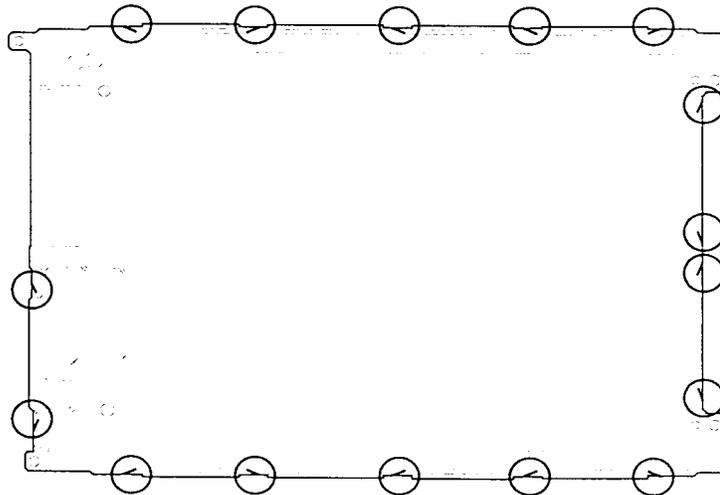

Figure 4-31 Unbending the color LCD module latches
To remove the T2400CS's FL, follow the steps below. Refer to figures 4-31 through 4-33.
3. Lay the **color LCD module** face down and use needle-nose pliers to unbend the **16 latches** holding the front and back frames together. Then, lift the unit out of the front frame (figure 4-31).
To install the T2400CS's FL unit, follow the steps below and refer to figures 4-31 through 4-33.
3. Carefully bend the **16 latches** back into place (figure 4-31).